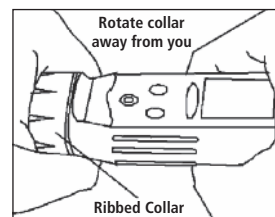

Figure 6:
- 1 With dry hands, grip the ribbed instrument collar with electrode facing you. Twist the collar counter clockwise (see figure 6). Save the ribbed Testr collar and O-ring for later use.